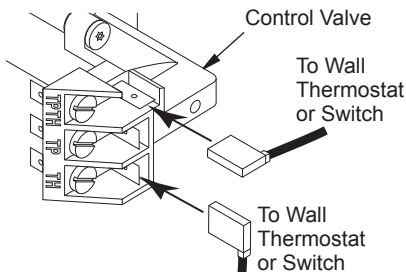

Figure 32 - Connecting Wire Terminals
2. Connect one terminal of 25 ft. wire to the "TH" terminal on the control valve. Connect the other terminal to the "THTP" terminal on the control valve. See Figure 32.